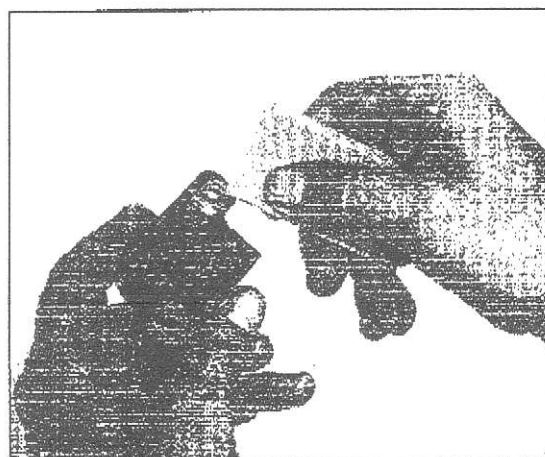

Fig. 63 Remove Oxidation Film
- 5) Lightly rub off any oxidation film (Fig. 63) on the terminals of the coil and coil base with a fine grit sandpaper. Do not rub excessively.